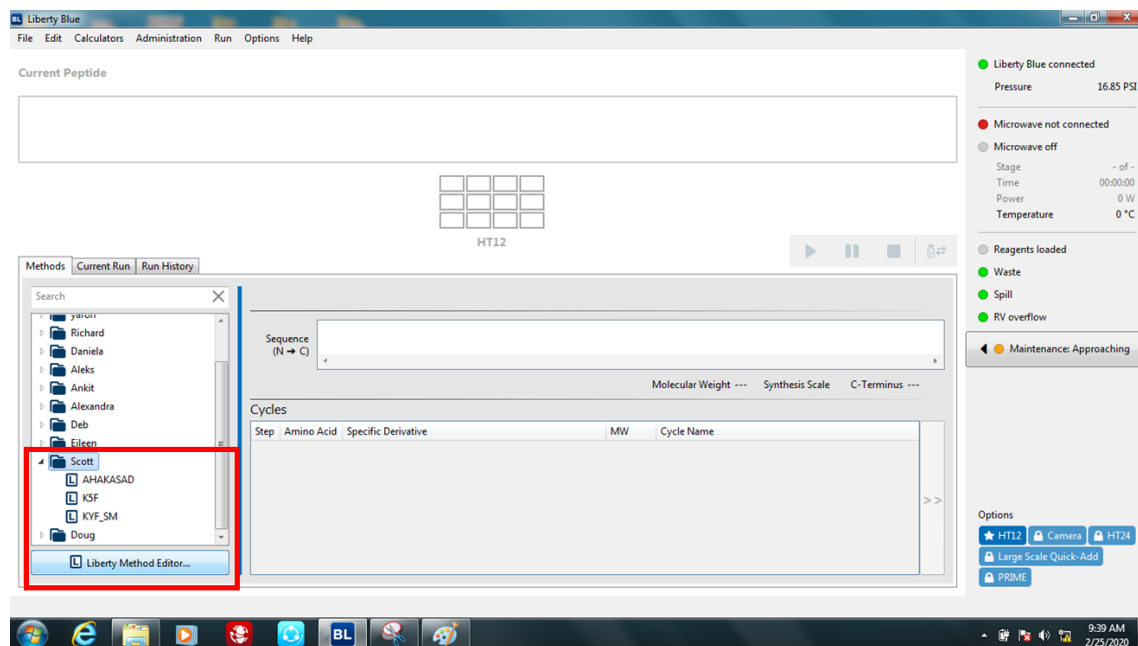

Figure 5. Liberty Method Editor will allow you to add a new peptide sequence.
5. Navigate to your folder under the *Methods* tab and open the *Liberty Method Editor...* (Figure 5)